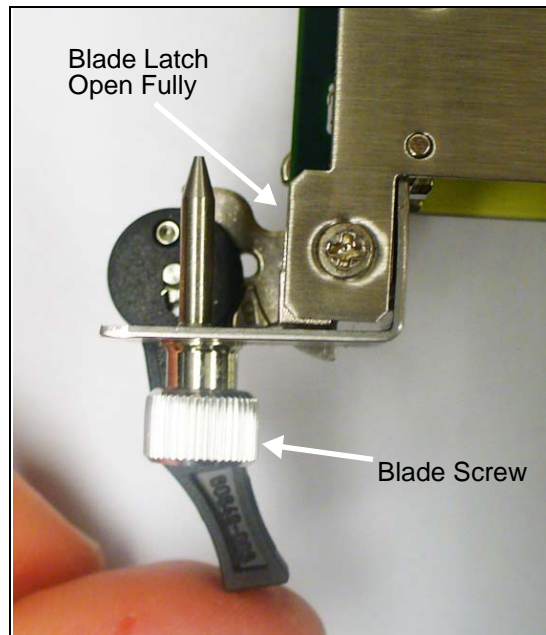

Figure C.29 - G10 IIC Ejector Handle - Open Blade Latch
4. Swing the ejector handles inward until they snap into place just beneath the blade screws (**Figure C.29**). Be sure to release the ejector handles before swinging them inward so the blade latches remain in the open position.